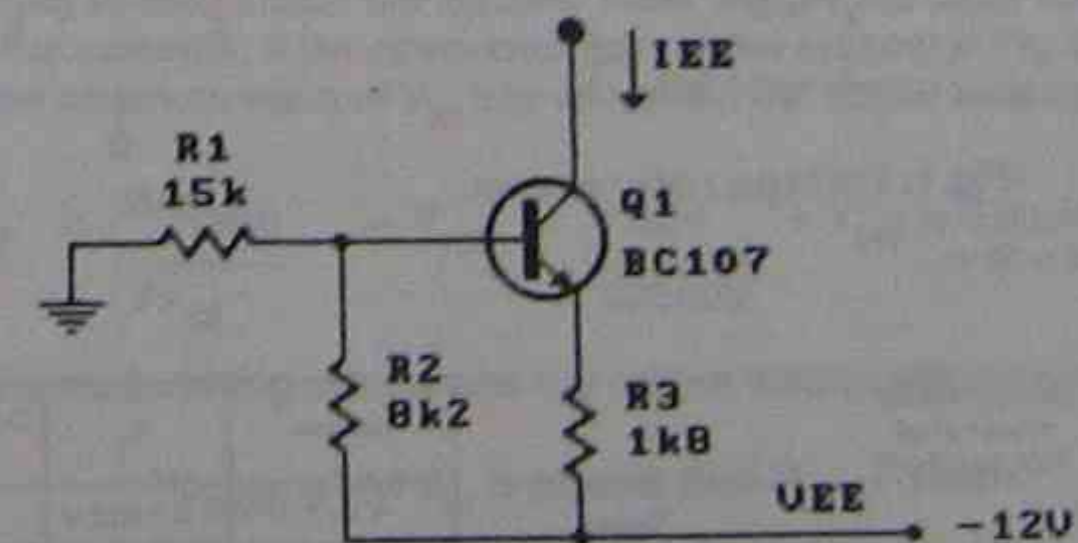

Fig.1.
- For the circuit of Fig.1, calculate:
- The current that would flow in each transistor of a differential amplifier if Fig.1 was connected as a constant current source in the emitter circuit of a differential amplifier.